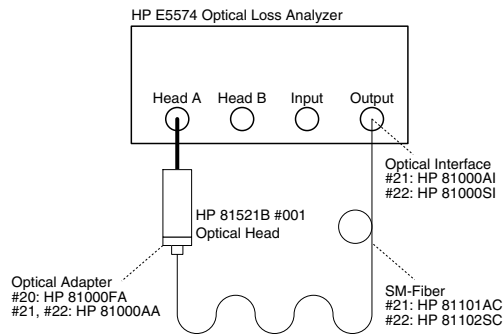

Figure D-8
- a Connect the equipment as shown in Figure D-8.
- d Unmount the protection cap and connect the equipment as shown in Figure D-8.